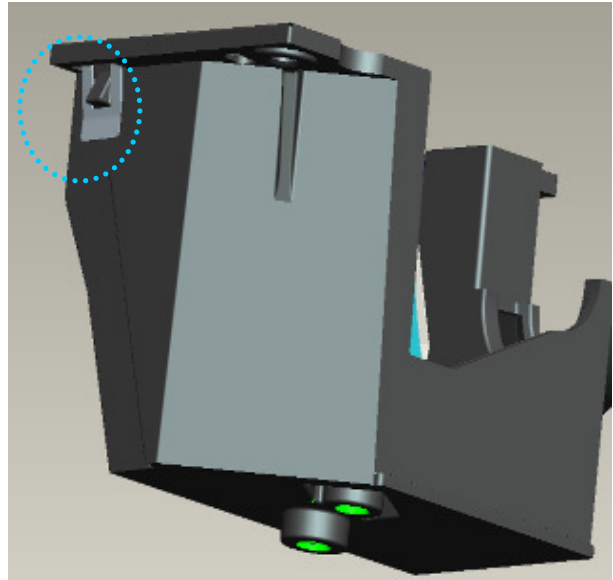

Fig. 3-5
- (5) Check and make sure “CLIP of CM” hooks the HSG ILL very well (Fig. 3-5).